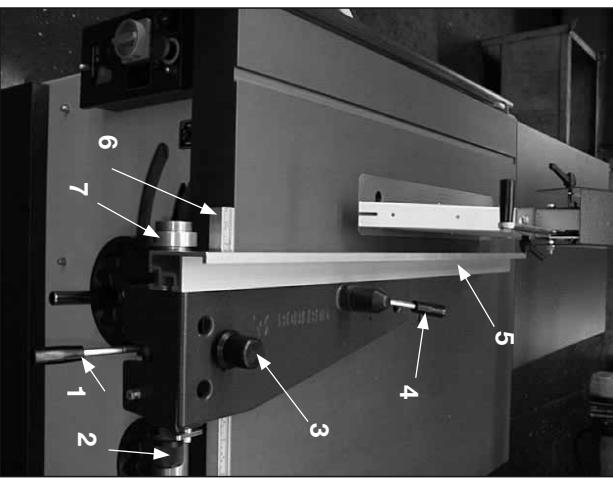

Fig.14
When the serrated knob (fig. 14,3) is unlocked, and the handle (fig. 14,1) is lifted up, the complete parallel fence can be moved.
Simply unlock the clamping handle (4) on top of the casting and slide off the fence, and set the fence back in the low position as shown in fig 14 bis.
Calibration of the scale on the fence (Fig.14)